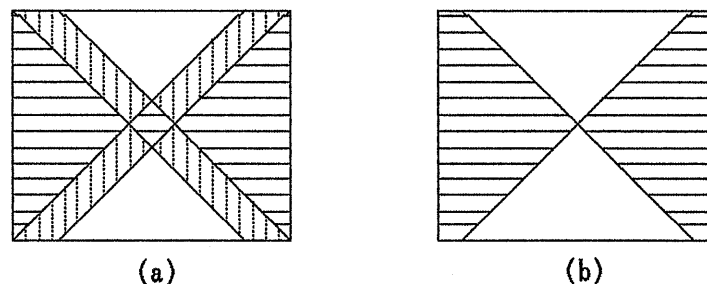

Figure 4-3
⑩ Turn the **PILOT** key off.
⑪ Press the MODULATION FUNCTION **SUB** key to turn it ON.
Waveforms like the ones shown in Figure 4-3 appear on the oscilloscope, so rotate the ⑤ PILOT PHASE semi-fixed adjuster, adjusting so a waveform like Figure 4-3 (b) is formed.